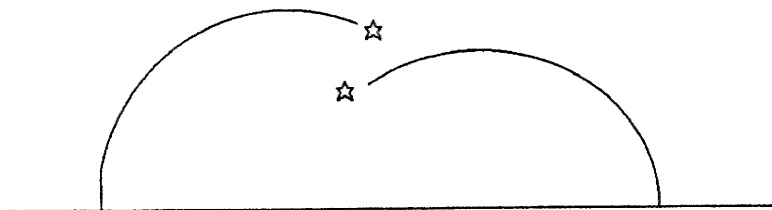

Figure 3-4-1
- ① Observe the terminal 7B of the connector "WA" with an oscilloscope, and make sure that the output waveform is 0 ± 0.5 V. (DC range)
- ② Set the correction value of L of R-LINEAR BALANCE to -100% (DATA=00), and set the correction value of R to -100% (DATA=FF).
- ③ Adjust VR8401 for the two peaks to acquire shapes that are symmetric at the right- and left-hand sides (the part of the waveform of Figure 3-4-1 bearing the mark ☆ shall be horizontal with regard to the abscissa). (At that time the waveform acquires the shape shown in Figure 3-4-2(a).)
- ① Observe the terminal 4B of the connector "WA" with an oscilloscope, and make sure that the output waveform is 0 ± 0.5 V. (DC range)
- ② Set the correction value of U of the R-LINEAR BALANCE to +100% (DATA=00), and set the correction value of D to +100% (DATA=FF).
- ③ Adjust VR8402 for the two peaks to acquire shapes that are symmetric at the right- and left-hand sides (the part of the waveform of Figure 3-4-1 bearing the mark ☆ shall be horizontal with regard to the abscissa). (At that time the waveform acquires the shape shown in Figure 3-4-2(b).)